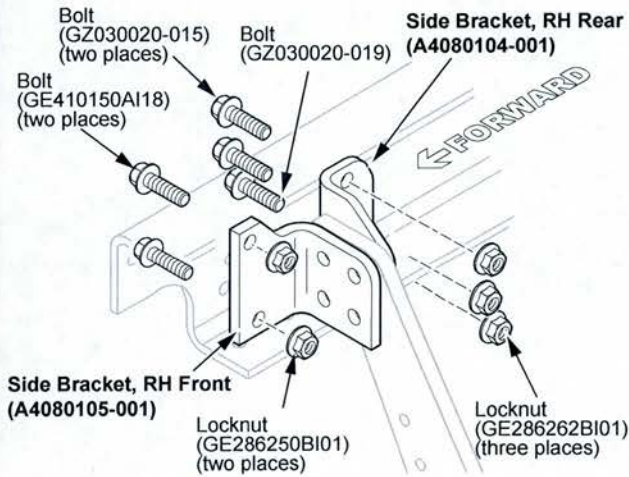

Figure 2
6. Install the new side bracket, RH front (A4080105-001) to the RH rail using two (GE410150AI18) bolts and two (GE286250BI01) locknuts (see Figure 2).
7. Install the new side bracket, RH rear (A4080104-001) to the RH rail using two (GZ030020-015) bolts, one (GZ030020-19) bolt and three (GE286262BI01) locknuts (see Figure 2).